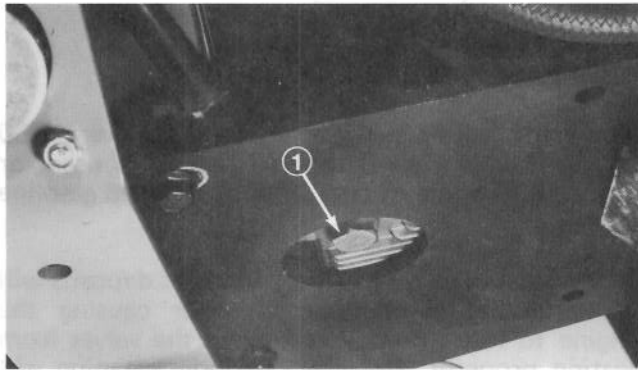

Figure 55
2. Disengage hood latch and open the hood. Set drain pan under the housing and in line with drain plug (Fig. 55).